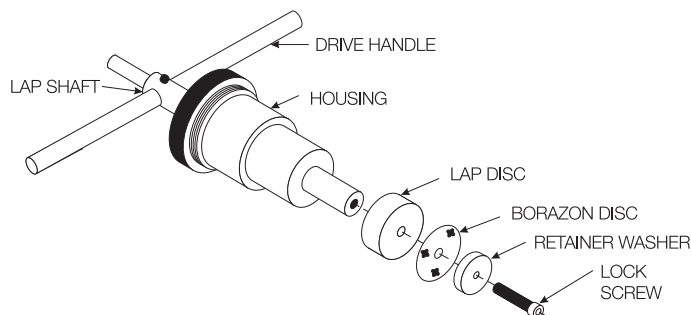

FIGURE 18—Seat Refinishing Tool
The tool used for refinishing the body seat consists of a housing, lap shaft, lap disc, three (3) grades of Borazon cutter discs, adhesive-backed sandpaper, a retainer washer and a lock screw. (See Figure 18.) A handle for hand-lapping is also included. The grades of cutter discs are indicated by the color of